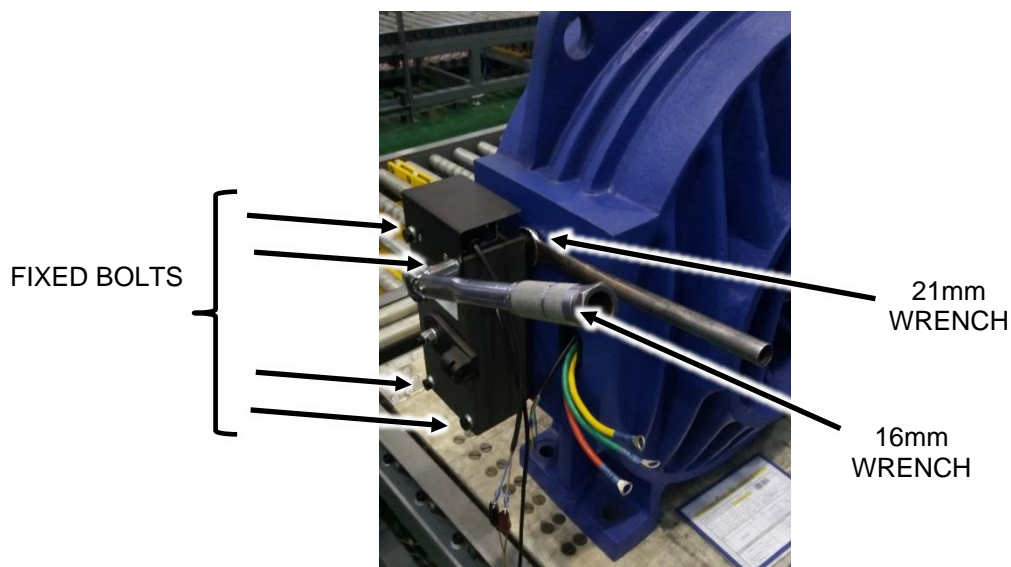

Figure 10
1. Loosen one of the 4 fixed bolts with a 16 mm wrench. See Figure 10.